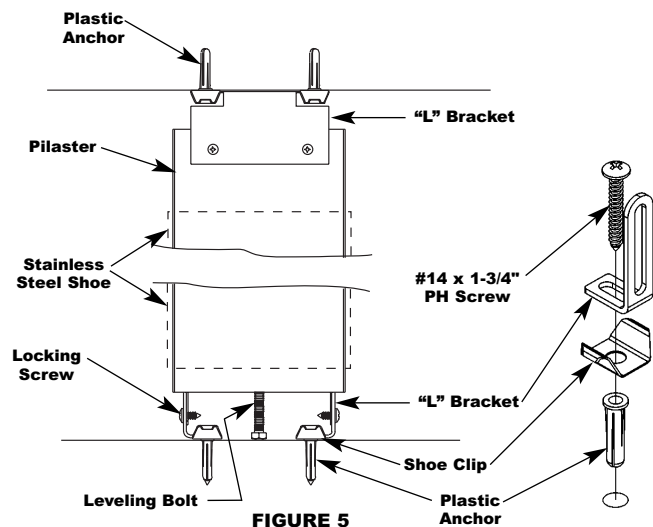

FIGURE 5
- Insert expansion shields or other floor & ceiling fasteners and position 3/8" threaded rods at floor, secured with a shoe clip and anchor nut. At ceiling mount "L" angle with shoe clip and locking screw. See figure 5.
- Level pilasters from one compartment to the next by adjusting support nuts on the threading rods. See figure 5.